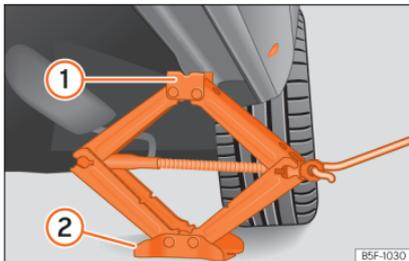

Fig. 46 Cross member: positioning the jack on the vehicle.
- Turn the jack* crank handle, located below the strut support point, to raise it until the tab ① »» **Fig. 46** is below the housing provided.
- Align the jack* so that tab ① “grips” onto the housing provided on the strut and the mobile base ② is resting on the ground. The base plate ② should fall vertically with respect to the support point ①.